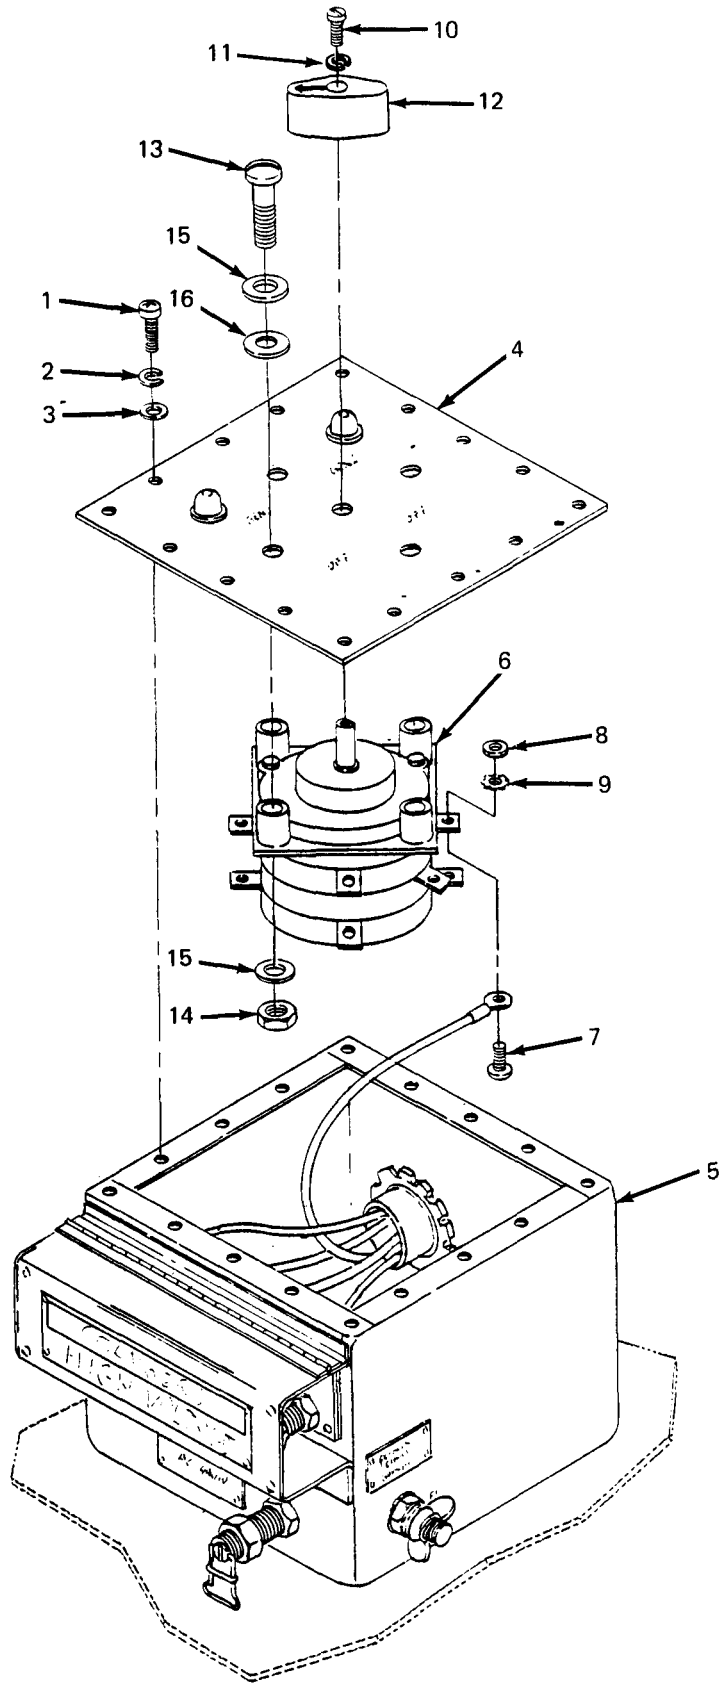

Figure 5-8. Switch Box Switch Replacement.
**5-6. Switch Box Repair.** (See figure 5-8.) Repairs to the switch box require disconnecting wires. When reconnecting wires, refer to the schematic inside the switch box (figure 4-7 or 4-8, as applicable).